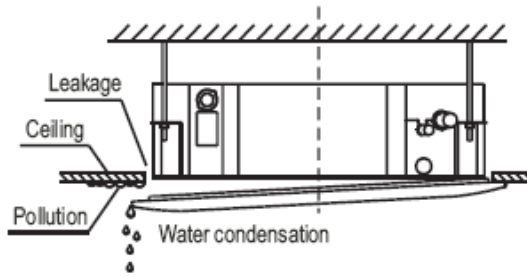

Fig.4-14
- Malfunction described in Fig.4-14 can be caused by inappropriate tightness the screw.